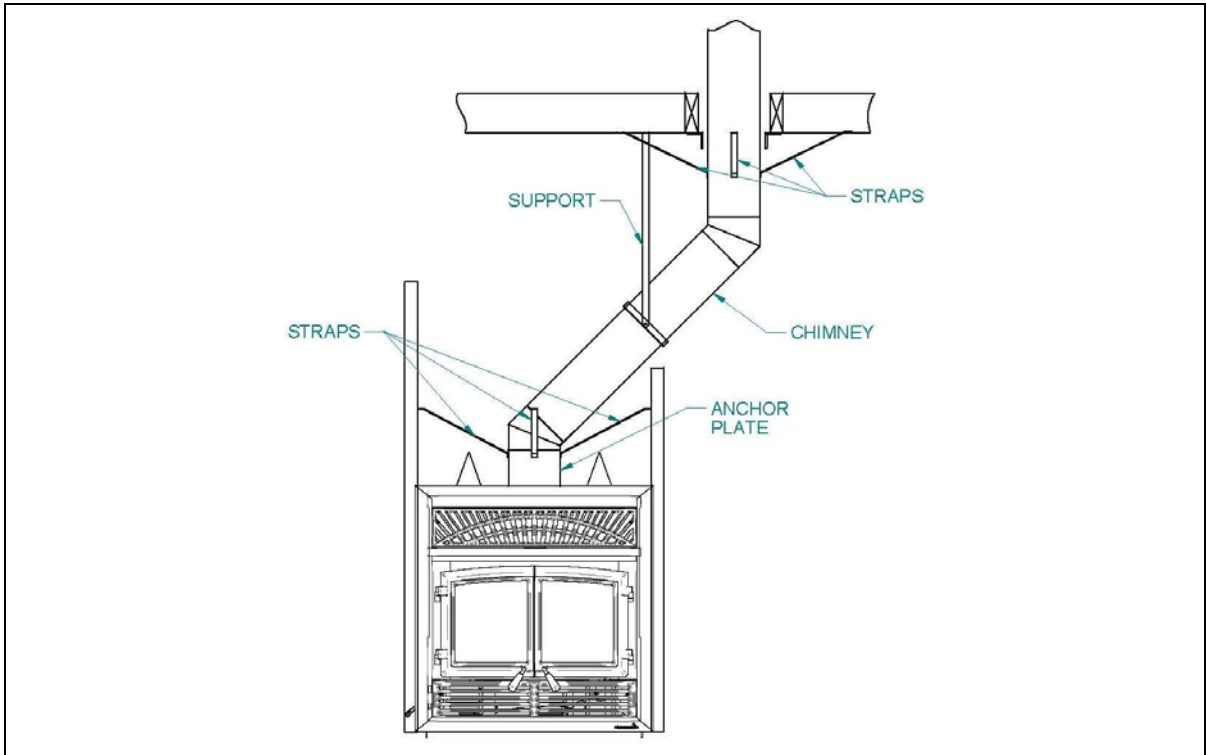

Figure 40
1. Install the first elbow; turn it in the required direction. Secure it to the chimney according to the chimney manufacturer's instructions. In many cases, it is recommended to secure connections with three (3) ½" (12 mm) metal screws.
2. Install the necessary chimney lengths to achieve the required offset. Lock the chimney lengths together according to the chimney manufacturer's instructions. In many cases, it is recommended to use three (3) ½" (12 mm) screws. If the offset length is made of two (2) chimney lengths or more, many chimney manufacturers may require that you use an offset or roof support halfway up the offset. If penetrating a wall, install a wall radiation shield supplied by the chimney manufacturer (see figures 40 & 41).